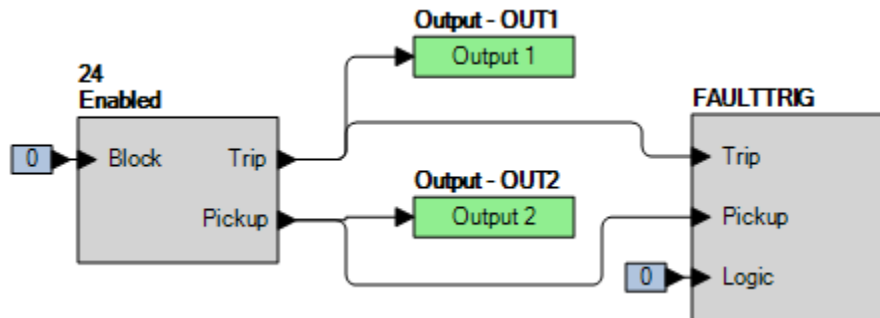

Figure 58-1. BESTlogicPlus Settings
Step 2: Use BESTCOMSPPlus to configure the BESTlogicPlus programmable logic shown in Figure 58-1.